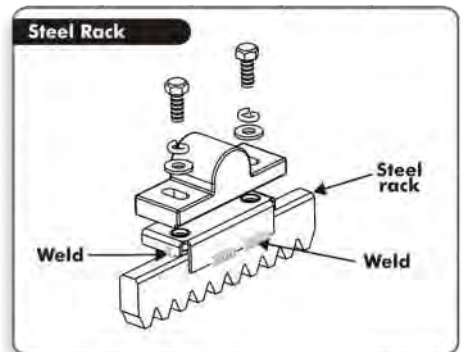
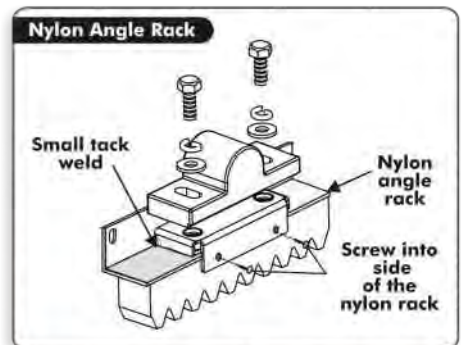

FIGURE 31
FIGURE 32
3. Mount the origin marker onto the rack using the bracket provided referring to Figure 31 if mounting onto steel rack or Figure 32 if onto nylon angle rack.
4. With nylon angle rack it is preferable to use self tapping fasteners into the side of the nylon angle rack as shown in Figure 32.